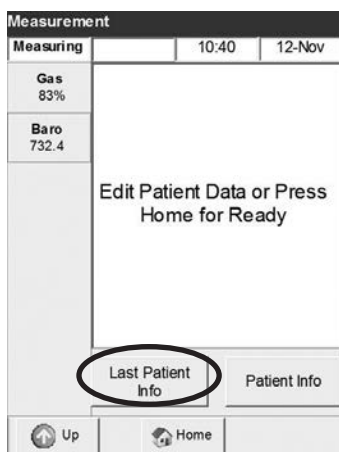

Fig. 5-13 Edit Patient Data
- Press the **<Last Patient Info>** button (Fig. 5-13) to use the last patient info as the default for the current patient info.